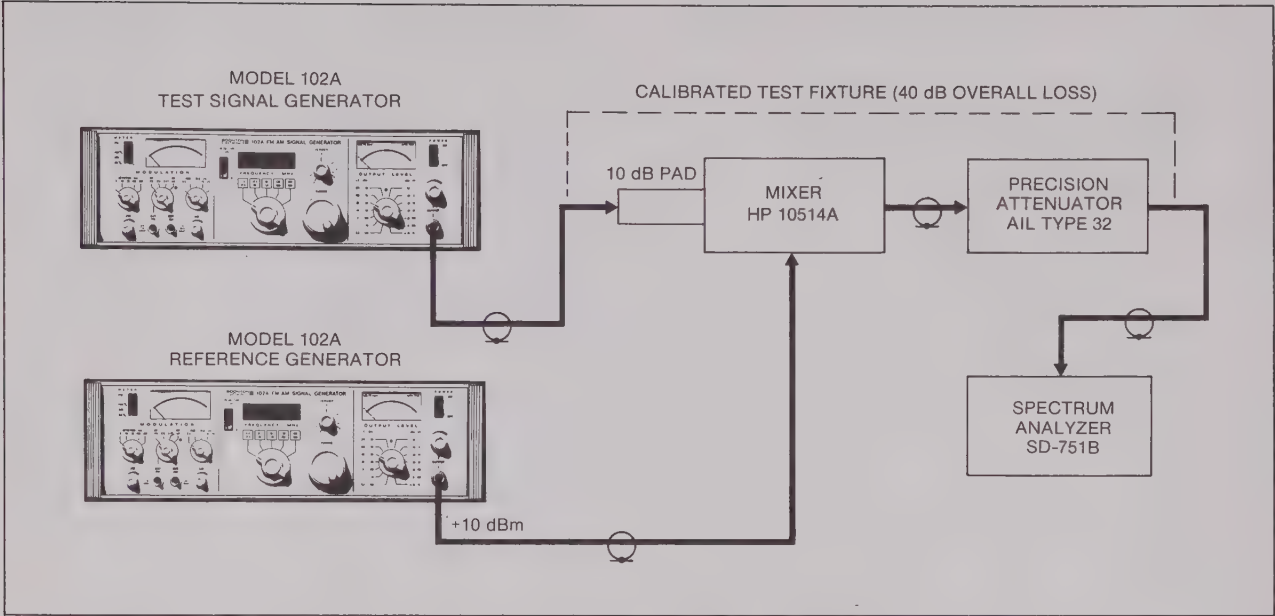

Figure 2-18 Output Level Accuracy Check, Test Setup
h. Connect the Model 102A and test equipment as shown in Figure 2-18. Set the controls of the test Model 102A and the reference Model 102A as shown in Table 2-3.